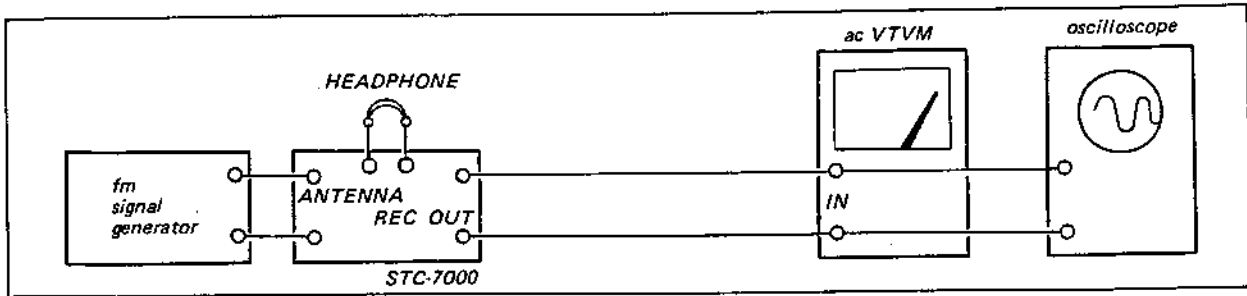

Fig. 3-3. Fm i-f, discriminator, muting and front end alignment test setup
1. With the equipment connected as shown in Fig. 3-3, set the signal-generator's controls as follows:
1. With the equipment connected as shown in Fig. 3-3, set the receiver's control as follows:
1. With the equipment connected as shown in Fig. 3-3, set the signal generator's and receiver's controls as follows:
2. Connect the equipment as shown in Fig. 3-3.
- FUNCTION (1) switch . . FM
- FUNCTION (2) switch . . FUNCTION (1)